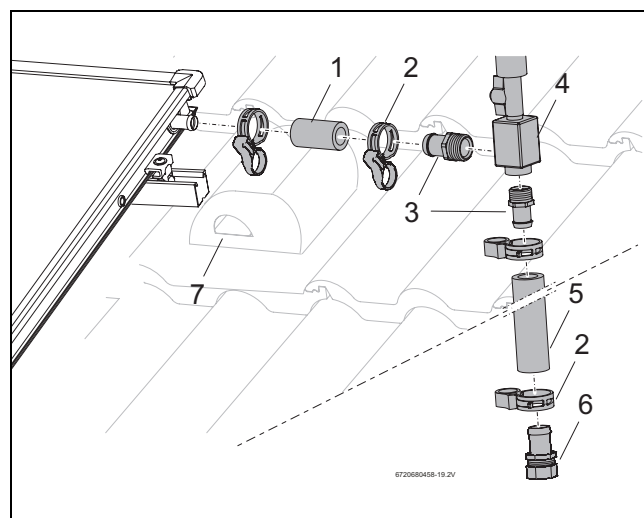

Fig. 54 Connecting the air vent valve on the roof top
- Push short solar hose (55 mm, Fig. 54, [1]) on to the flow connection of the collector array and fix in place using hose clip.
- Firmly screw the R $\frac{3}{4}$ hose nozzles with the O-rings (Fig. 54, [3]) in the air pot (Fig. 54, [4]).
- Insert the hose nozzles (Fig. 54, [3]) as far as they can go into the solar hose (Fig. 54, [1] and [5]) and secure with hose clip (Fig. 54, [2]).
- Insert hose nozzle with compression fitting (Fig. 54, [6]) into the solar hose as far as it will go and fix in place with hose clip.
- Feed the solar hose together with the sensor cable through the ventilation tile (Fig. 54, [7]) and through the roof insulation.
- Connect header pipe to the hose nozzle with compression fitting (15 mm) (Fig. 54, [6]).